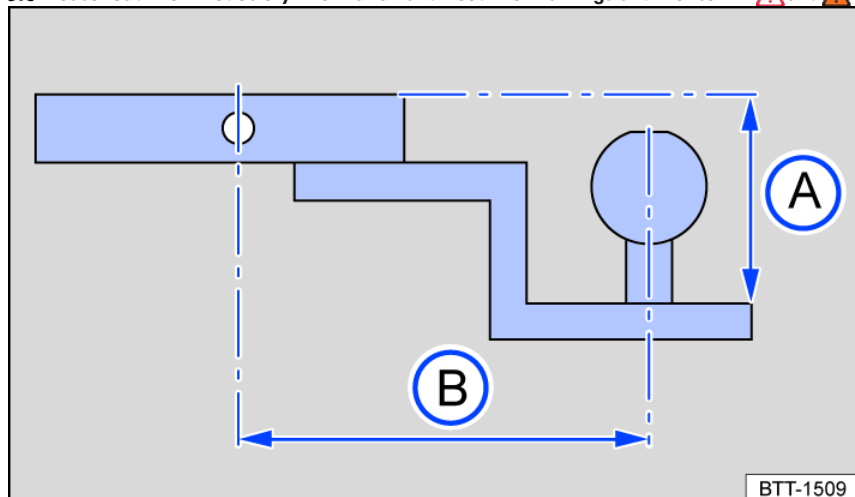

Fig. 167 Dimensions of the hitch ball holder and mount.
The mount requires that the hitch ball holder and ball head have a special shape and size. This also concerns the drop height of the ball head fig. 167 A, as well as the distance of the locking pin to the ball head fig. 167 B.
- The drop height fig. 167 A from the upper edge of the ball head to the upper edge of the neck may be minimum 25.4 mm (1 inch) and maximum 73 mm (2 7/8 inches).
The distance of the locking pin to the ball head fig. 167 B from the center of the ball head to the center of the pin eye may not exceed 178 mm (7 inches).